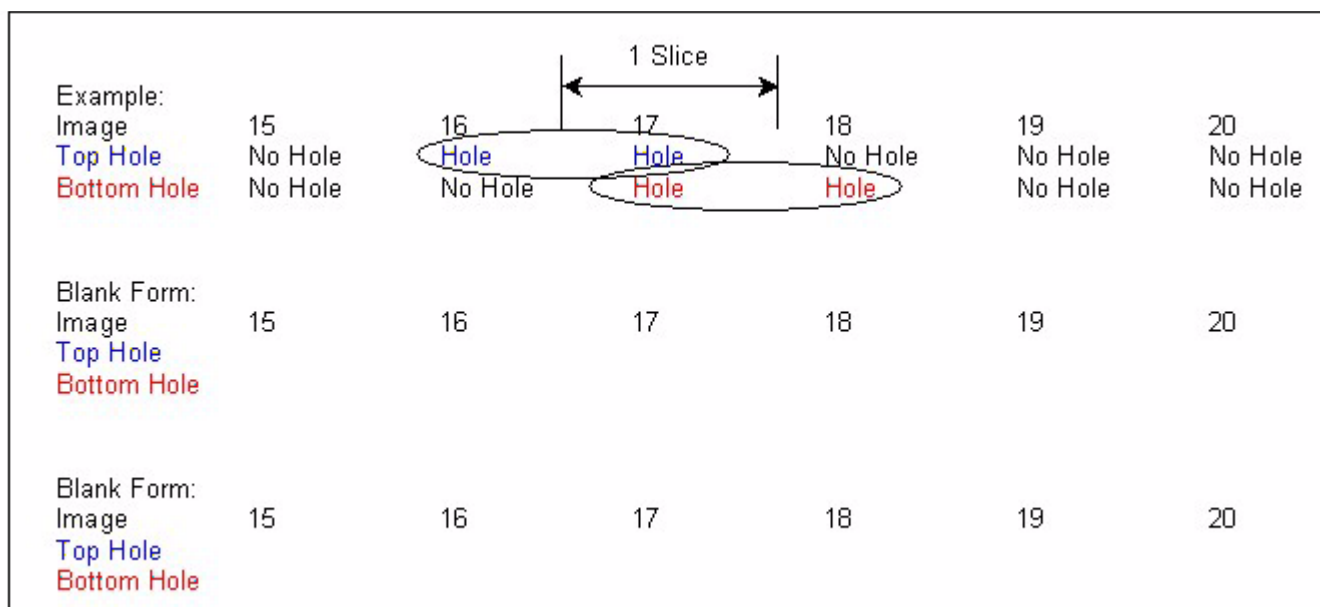

Figure 7-8 Centerline Example 3
- 2.) Using the previous method, verify that the top and bottom holes are off by no more than 1 image. If off by more than 1 image, adjust the shims accordingly. (See Figure 7-8.)